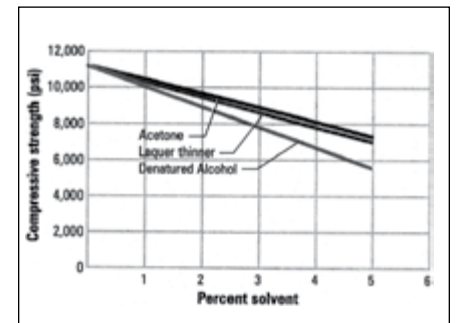

Figure 4. Compressive strength of 105/205 epoxy vs percent of solvent added.
- Adding 5% lacquer thinner to epoxy reduces the epoxy's compressive strength by 35%—a big hit in the mechanical properties of West System epoxy (Figure 4). The addition of more than 5% solvent results in an excessively flexible cured-materi-